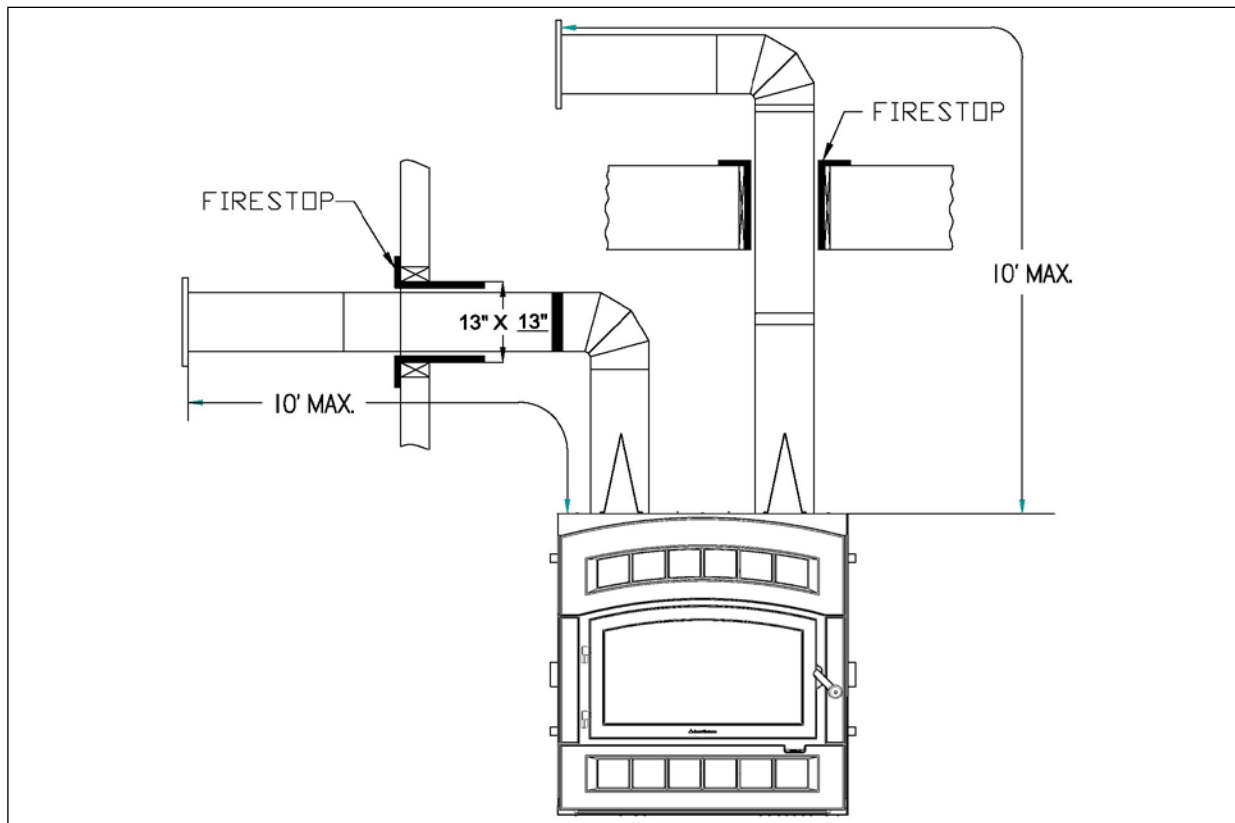

Figure 30
- Maximum length 10' (3m) (see figure 30)